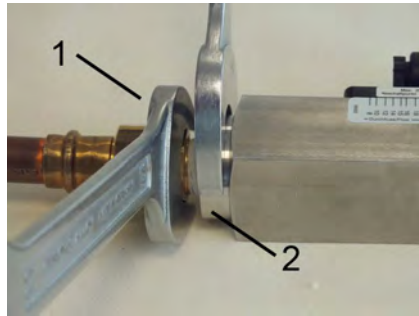

Fig. 13: Screw in the device
- Keep turning in the adapter union (Fig. 13/1) while holding the process connection of the device locked (Fig. 13/2) until the connection is tight.